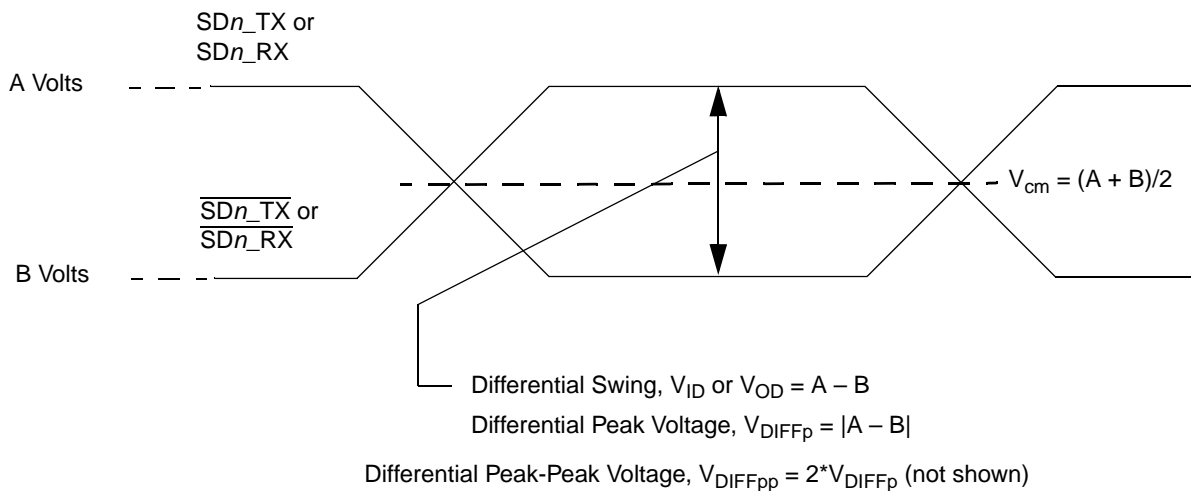

Figure 43. Differential voltage definitions for transmitter or receiver
Figure 43 shows how the signals are defined. For illustration purposes, only one SerDes lane is used for description. Figure 43 shows the waveform for either a transmitter output (SDn_TX and $\overline{SDn_TX}$) or a receiver input (SDn_RX and $\overline{SDn_RX}$). Each signal swings between A Volts and B Volts where $A > B$.
6. **Differential waveform:** The differential waveform is constructed by subtracting the inverting signal ($\overline{SDn_TX}$, for example) from the non-inverting signal (SDn_TX , for example) within a differential pair. There is only one signal trace curve in a differential waveform. The voltage represented in the differential waveform is not referenced to ground. Refer to Figure 43 as an example for differential waveform.